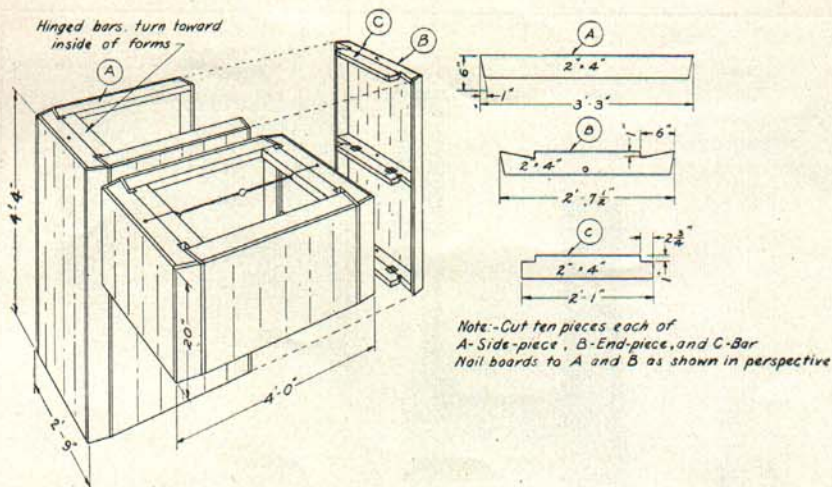

Fig. 9. "Take down" forms are convenient when several tanks are to be built.
Forms may be made of any ordinary lumber. If, however, the forms are to be used several times, they can be made after the plan shown in Fig. 9. These forms can be removed very easily without damage. For the "take-down" forms the following material will be needed:*
- 5 pieces 2" x 4" x 16' dressed four sides (cut 2 pieces of a, b, c, from each 2" x 4" x 16'). Fig. 9.
the concrete. The "take down" forms shown in Fig. 9 can be removed by turning the hinged bars until they are free. The side and end forms can be loosened by forcing them inward and then lifting out.